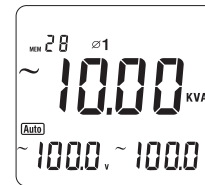

Figure 14
4. When measuring 3 phase 4 wires: (see figure 14, 15, 16)
- Press **SELECT** to choose the first phase  $\varnothing 1$ , see figure 14.